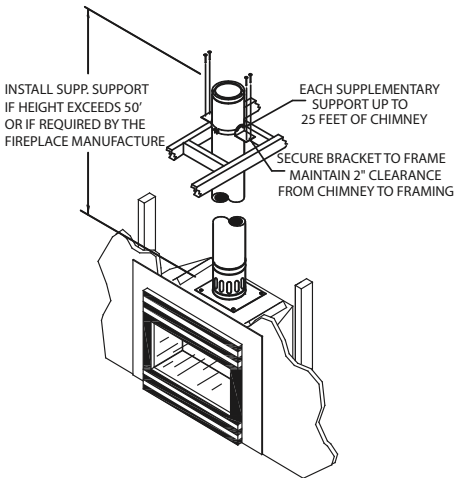
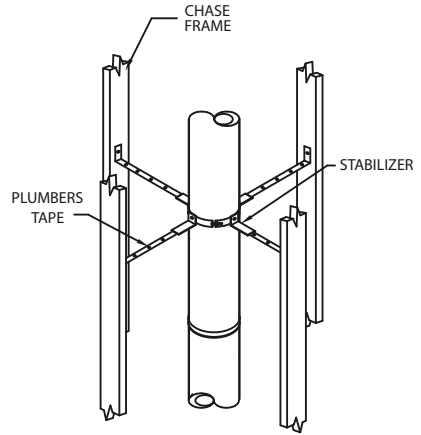

Figure 6
Figure 7
8. Supplementary Support and Stabilizer: Install a Supplementary Support if total chimney height is greater than 50-feet, or if the fireplace manufacturer requires it. If additional support is needed, install one or more Supplementary Supports which can each support 25-feet of chimney (**Fig. 6**). Clamp the Supplementary Support band around the pipe using the nut and bolt provided, and anchor the support to nearby building framing. Always maintain the 2-inch clearance to combustibles from the chimney pipe. A Stabilizer is available and may be required by some fireplace manufacturers to keep the chimney vertical and help maintain clearances to combustibles within a chase. Clamp the Stabilizer to the pipe using the nut and bolt provided, and secure legs to nearby framing using plumber's tape or guy-wires (**Fig. 7**). Note: the Stabilizer does